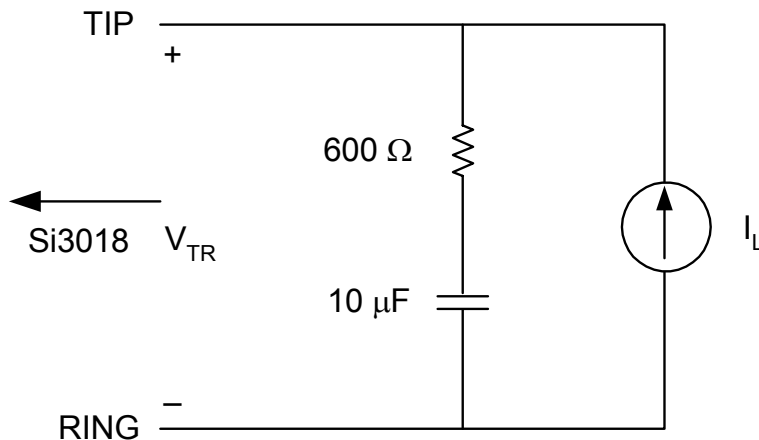

Figure 1. Test Circuit for Loop Characteristics
($V_D = 3.0$ to 3.6 V, $T_A = 0$ to 70 °C for K-Grade, see Figure 1)
- Measured at TIP and RING with 600 Ω termination at 1 kHz, as shown in Figure 1.
2. Measured at TIP and RING with 600Ω termination at 1 kHz, as shown in Figure 1.